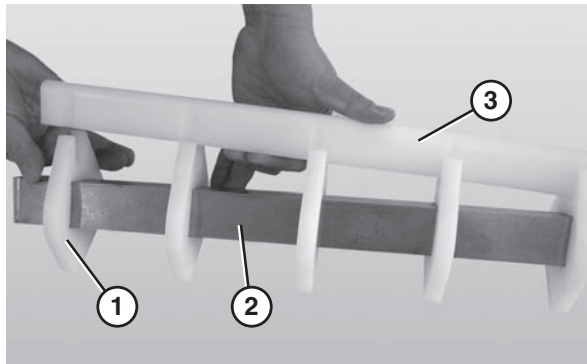

Figure 68
3. Remove the nose bar wear strip (**Figure 68, item 3**).
4. Slide the nose bar pucks (**Figure 68, item 1**) off the nose bar shaft (**Figure 68, item 2**).